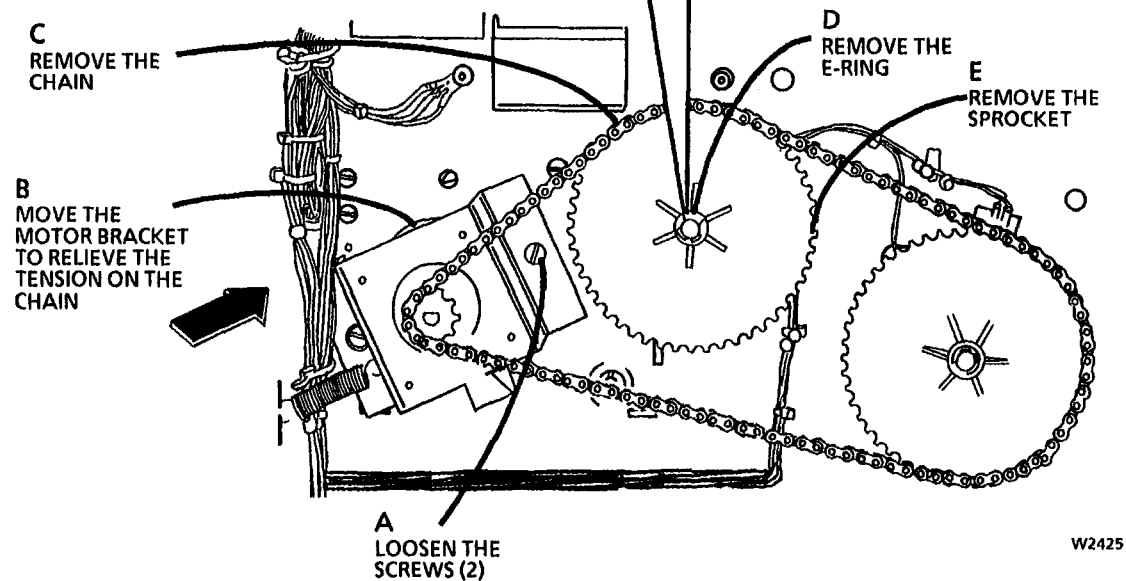

Figure 1. Removing the Feed Clutch
2. (Figure 1): Remove the Feed Clutch.